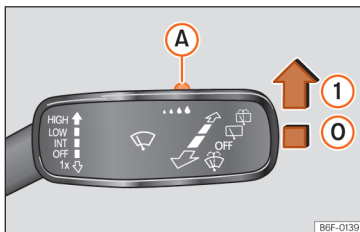

Fig. 77 Windscreen wipers lever: adjust the rain sensor (A).
Push the lever to the desired position >>> Fig. 77.
- ① Rain sensor active; automatic wiping if necessary.
When the ignition is switched off and then back on, the rain sensor stays on and starts operating again when the windscreen wipers are in position >>> Fig. 77 ① and the vehicle is travelling at more than 16 km/h (10 mph).